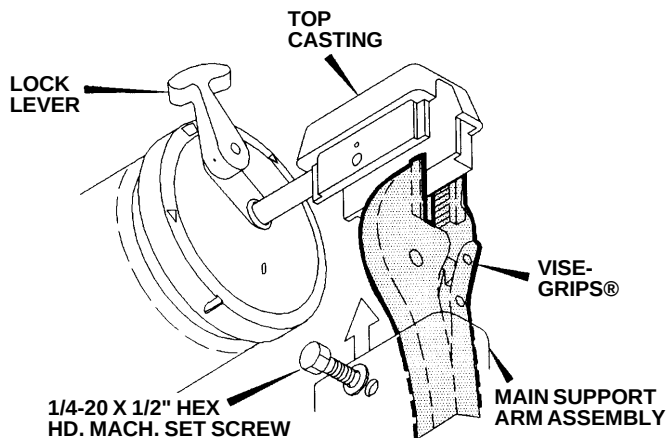

FIG. 4
1. Clamp a Vise Grip® tightly on the top casting. Remove the 1/4-20 hex head machine screw from the top casting. See FIG. 4.
1. Clamp a Vise Grip® tightly on the thickest side of the top casting. See FIG. 4.